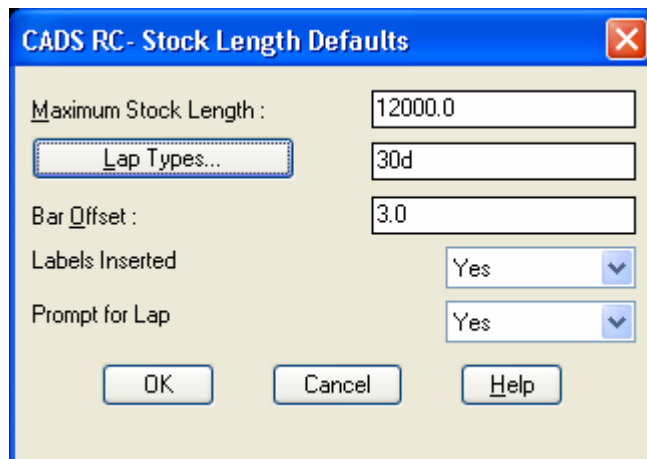

Figure 7.5:1 Stock Length Defaults dialog
- If you type **S** for Stock the dialog shown in figure 7.5:1 below is displayed. This allows you to amend the *Maximum Stock Length* value and if you then attempt to stretch the bar(s) over this value *CADS RC* will automatically invoke the *Over Stock Length* feature discussed earlier in Section 4.4. Select OK to return to the command.